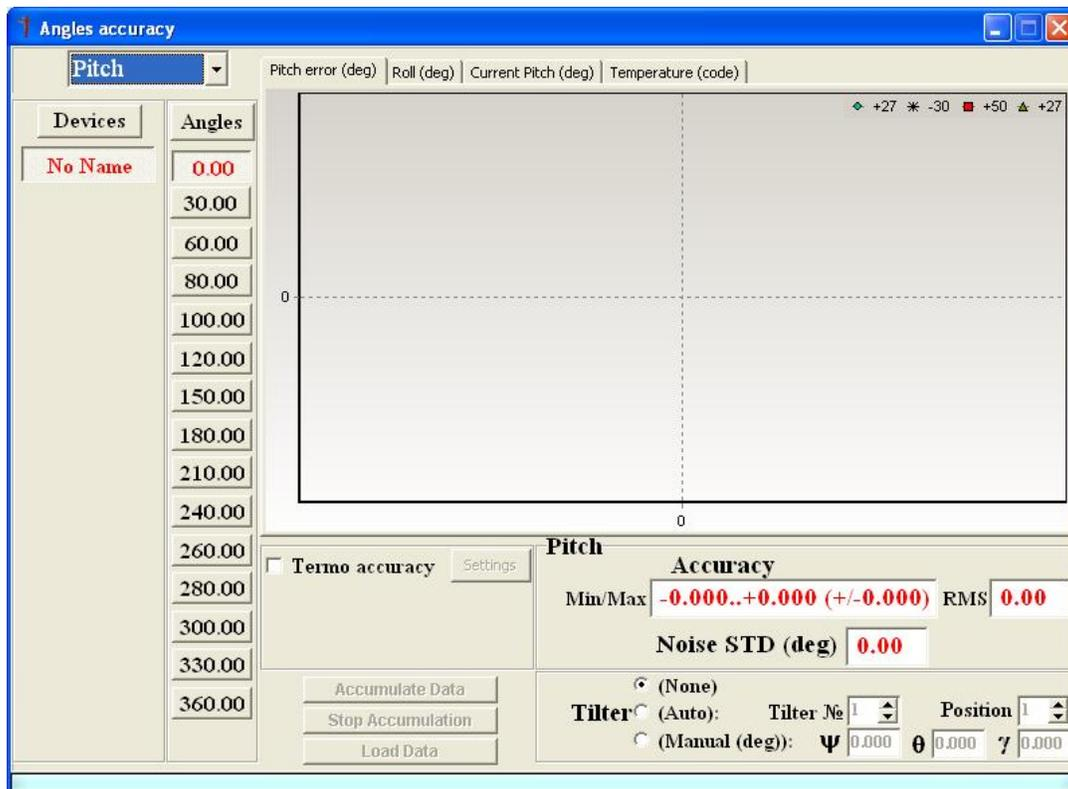

Fig. 8.1
To start the accuracy check select **"Plugins"** menu and then **"Angles accuracy"** item (Fig. 3.5) from the main menu. After that the next window will appear (see Fig. 8.1).
In a pulldown list in the left top corner there is a capability to choose an orientation angle (Pitch or Roll) on which the VG will be tested. Depending on the chosen parameter the accuracy check window name which is shown in the Fig. 8.1 will change.
The check of VG pitch angle accuracy is carried out by rotating the VG around the horizontally located lateral axis X of the VG on angles specified in the column “Angles” (see Fig. 8.1). It is necessary to note that the accuracy control in angles 90°, 270° and close to them is not carried out because of uncertainty of two other orientation angles – Yaw and Roll in this position.
The check of roll angle accuracy is carried out by rotating the VG around the horizontally located longitudinal axis Y of the VG on angles specified in the column “Angles” (see Fig. 8.1).
After that the operator clicks the button "Scan". The program serially polls specified COM-ports, and in column "Device Name" names of found VG' are displayed and button "OK" becomes active. By clicking the button "OK" (see Fig. 8.2) names found in window "Devices Properties" are transferred to the left of a check accuracy window (Fig. 8.1) instead of label "NoName". Clicking the button "Cancel" or button "X" closes the window "Devices Properties" Fig. 8.2.
At accuracy tests it possible to take into account misalignment angles of the VG installation on a test bench platform on which VG is tested. Such situation is possible if for VG installation on a test bench platform intermediate adaptations are used, for example tilter. If deviation angles of tilter adjusting bases for VG relatively to test bench platform are known, they are necessary for considering at accuracy check. For this purpose “Tilter” fields are used in the right bottom window corner Fig. 8.1. Here it is possible:
The button “Accumulate Data” (see Fig. 8.1) consistently starts VG for operation. Automatically, in the top part of the check accuracy window the page “Current angle, deg” opens in which in the form of the graph the current measured angle (Pitch or Roll) is plotted. Upon completion of data collecting there is an averaging the measured data and switching on a following controllable angle, and in a folder where there is file VG_Demo.exe, the file of the report like Accuracy_*.txt is kept. It is a service file which can be used for continuation of testing VG after any possible failure in work. In that case for loading the previous measured data the button “Load Data” is used.
Note. Page “Current Pitch (deg)” changes its name on “Current Roll (deg)” and the page “Pitch Error, deg” changes its name on “Roll Error, deg” depending on the chosen controlled parameter in left top corner of the window “Accuracy” (see Fig. 8.1).
Step 2 - Step 5 – Perform Step 1- Step 4 from the item 10.1.
Step 6. Select “**Angles Accuracy**” from the “**Plugins**” menu (Fig. 3.5). Accuracy check window will appear (Fig. 8.1). In the left upper corner of the dropdown window choose orientation angle (Pitch or Roll) for the VG testing.